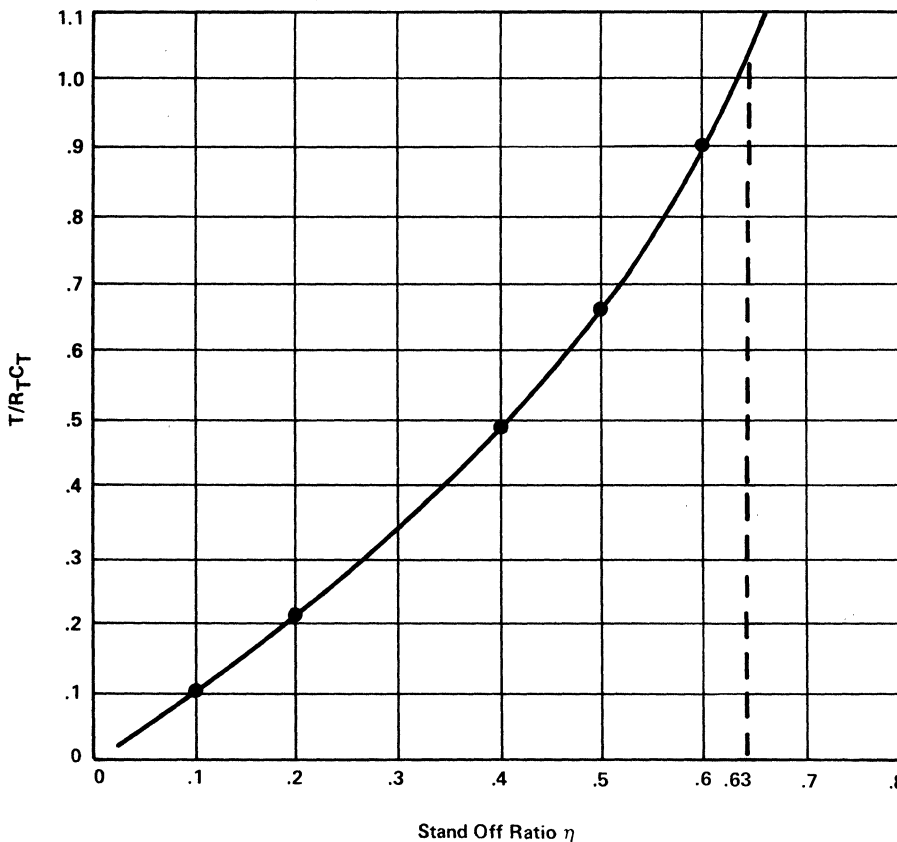

Fig. 9
- Step 2 From Fig. 9 with T given as 0.001 sec and η of 0.63. $R_t C_t = 0.001$, $T/R_t C_t = 1$ @ $\eta = 0.63$.